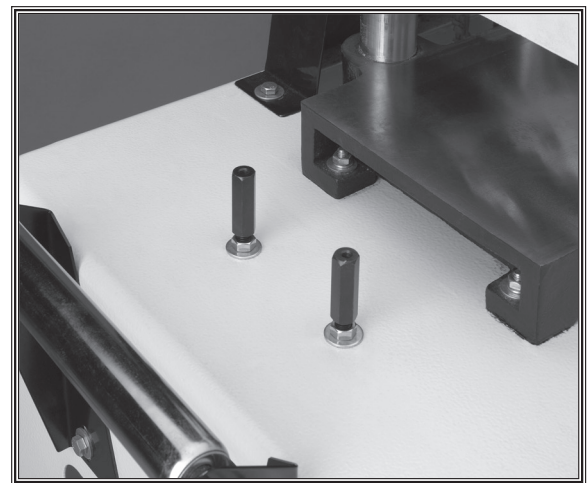

Figure 4. Base plate support studs.
7. Insert the studs as shown in **Figure 4** and loosely thread the nuts and washers removed in **Step 6** onto the studs from under the stand.